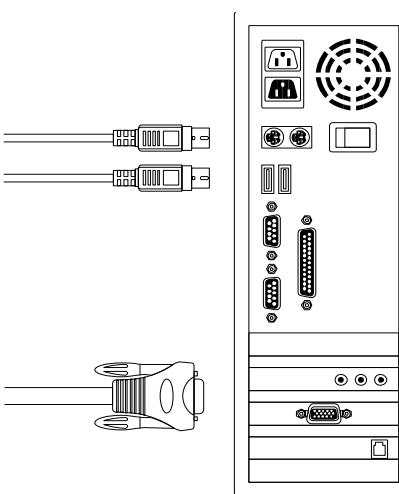

Figure 8: PS/2 (Keyboard & Mouse) and VGA connected
- B. Only connecting the **PS/2 (keyboard/mouse)** and **VGA** connectors to the computers. (*Figure 8*)